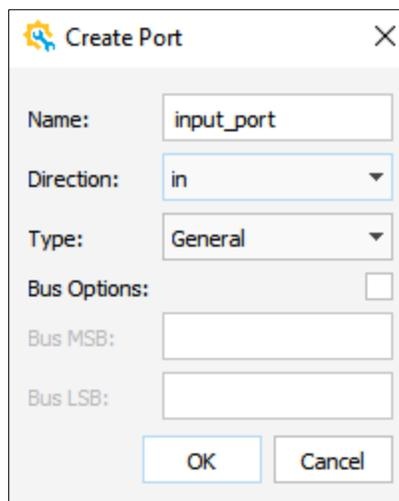

Figure 2.64. Create Port Dialog Box
- a. Right-click in the Schematic view and choose **Create Port**. The Create Port dialog box pops up (Figure 2.64).